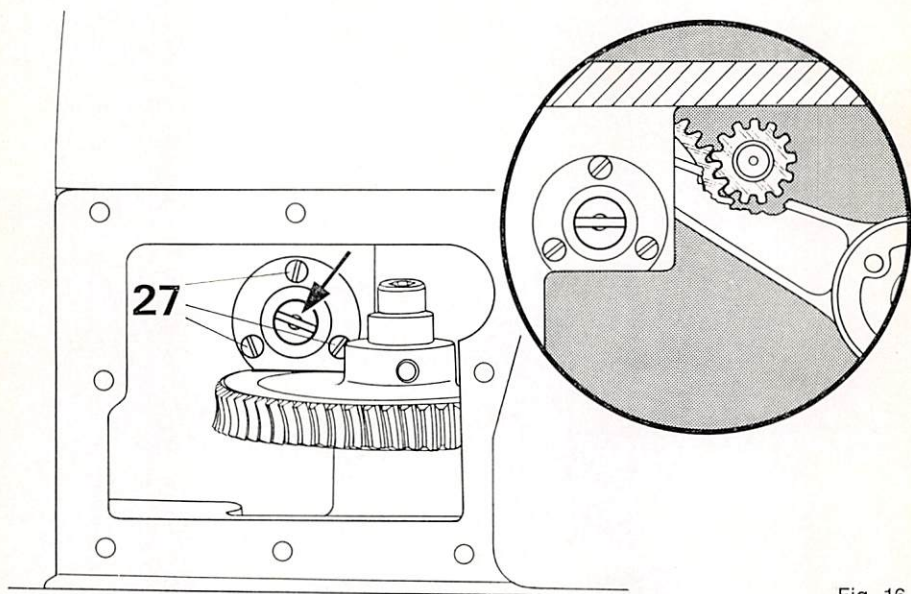

Fig. 16
**16. Adjusting the radial play of the shuttle driver (Fig. 16)**